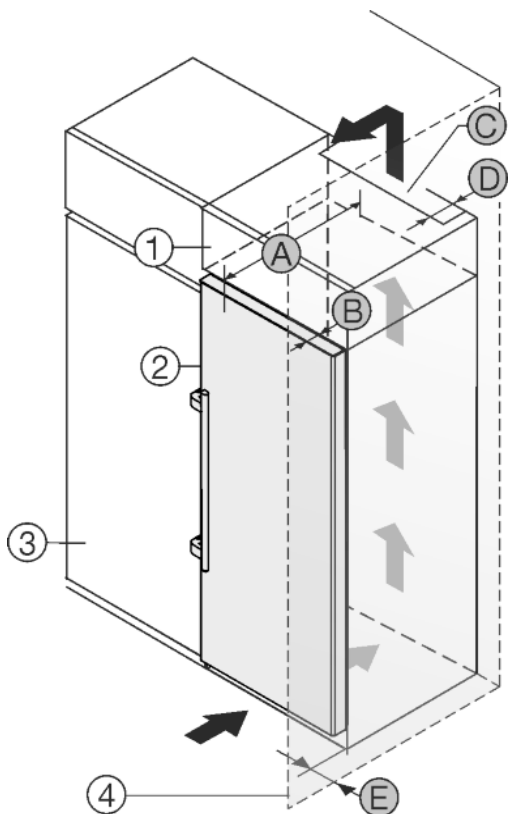

Fig. 10
The appliance can be built into kitchen units. A top cupboard Fig. 10 (2) can be added above the appliance in order to bring the appliance Fig. 10 (1) up to the height of the fitted kitchen units.
The appliance can be installed right next to the kitchen cabinet Fig. 10 (3). The appliance must stick out by the depth Fig. 10 (B) from the front of the cabinet so that the doors can be opened fully. The appliance may protrude further depending on the depth of the kitchen cabinets and whether wall spacers are used.
- There must be a ventilation shaft with the depth Fig. 10 (D) at the back of the top cupboard over the entire width of the cupboard.
- The ventilation shaft Fig. 10 (C) must be observed under the ceiling.
If the appliance is installed with the hinges next to a wall Fig. 10 (4) the distance Fig. 10 (E) between the appliance and the wall must be observed. This is how far the handle protrudes when the door is open.